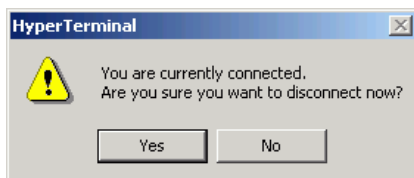

Figure 2-29 HyperTerminal Dialog Box (1)
12. Select the *Exit* option from the *File* pull-down menu to close the HyperTerminal application. A HyperTerminal message box appears (Figure 2-29):